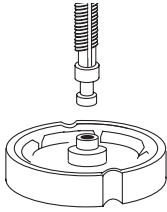

Figure 1
1. Attach Cam Shaft to the Press Disc by inserting stem of the Shaft into the Press Disc's center hole. Press firmly. You will hear a click as the Shaft snaps in place. (See Figure 1.)